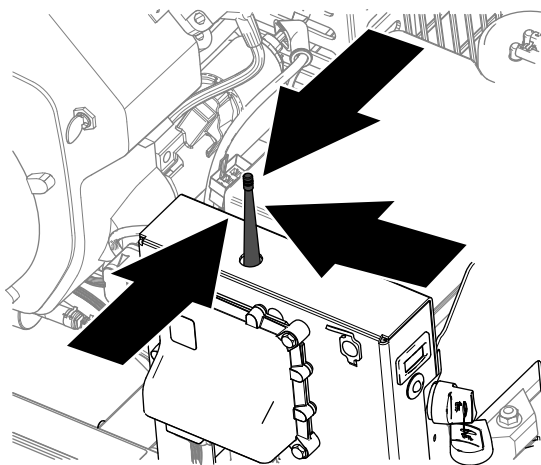

Figure 50
3. While holding the handheld remote, stand near the wireless-control module in an area with an unobstructed, clear line-of-sight to the antenna (Figure 50).